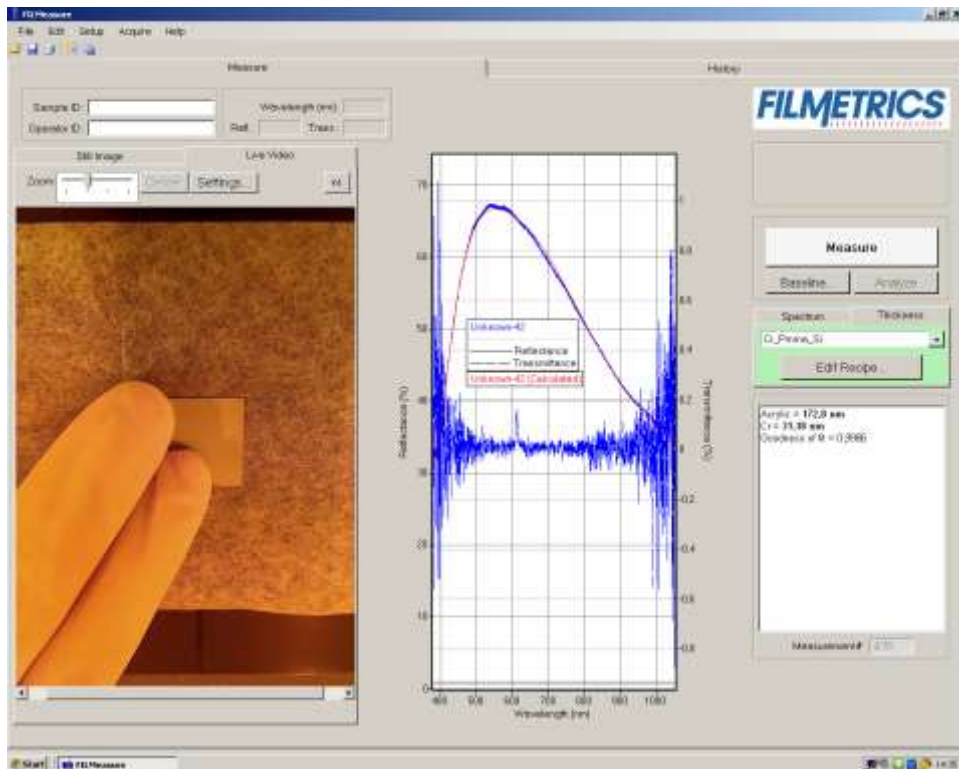

Figure 2: The Filmetrics user menu
4. After waiting 30 minutes you can start the calibration. Press the Baseline button (see right side of Figure 2). This starts a process to calibrate the tool for your measurement.